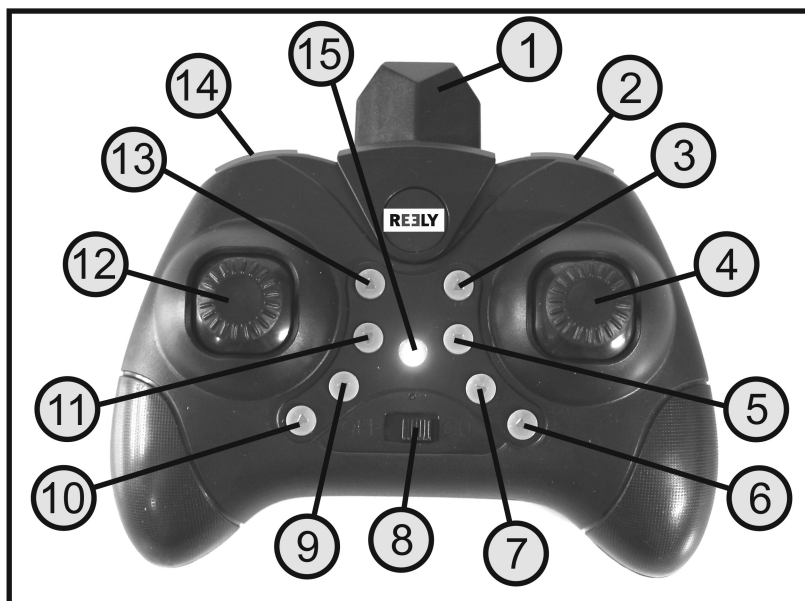

Figure 1
Slide the on/off switch (see also Figure 1, no. 8) from the left position (OFF) to the right position (ON).
The transmitter emits a short beep and the LED indicator (see also Figure 1, no. 15) starts to flash.
Then use the on/off switch to switch on the transmitter (see also Fig. 1, no. 8). The transmitter will then be paired with the quadcopter.